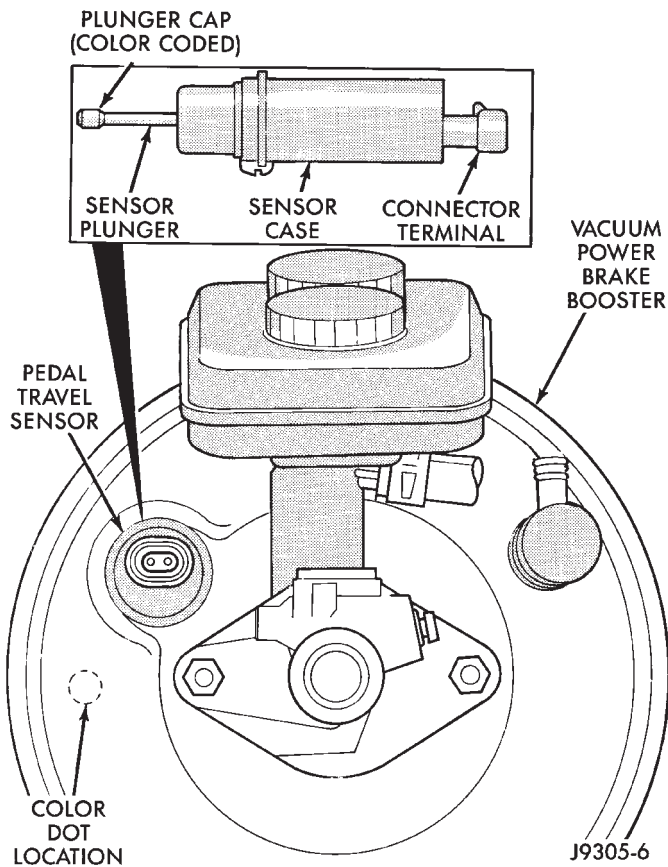

Fig. 2 Booster And Pedal Travel Sensor Color Code Locations
coded for identification, and to ensure they are used as matched sets. Be sure the color of the sensor cap and the color dot on the booster shell (Fig. 2) are the same before installation. A new pedal travel sensor is supplied with four different color caps. The caps are color coded to ease matching them with the color code dot on the booster shell.
- (1) If **original** booster and pedal travel sensor will be reinstalled, continue with installation procedure.
- (2) If **new** booster is being installed, it will be necessary to inspect and match booster and pedal travel sensor as follows:
- (b) If new booster is NOT equipped with a pedal travel sensor, it will be necessary to match and transfer original sensor to new booster. Compare color of sensor cap and color dot on booster shell (Fig. 2). If colors match, install sensor and continue with booster installation procedure. However, if colors **do not match**, select and install correct color cap on sensor plunger before installing sensor in booster.
- (3) Install O-ring on pedal travel sensor.